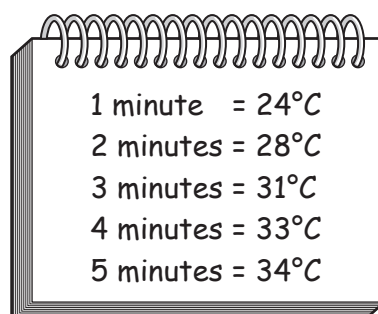
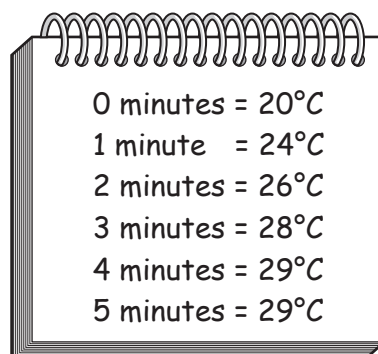

Fig. 1.1
Fig. 1.2
The measurements from step 6 are shown in Fig. 1.1.
- Step 8 Steps 4, 5 and 6 were repeated using test-tube **B**. These measurements are shown in Fig. 1.2.
- (a) (i) Prepare a table and record the results shown in step 4, Fig. 1.1 and Fig. 1.2.